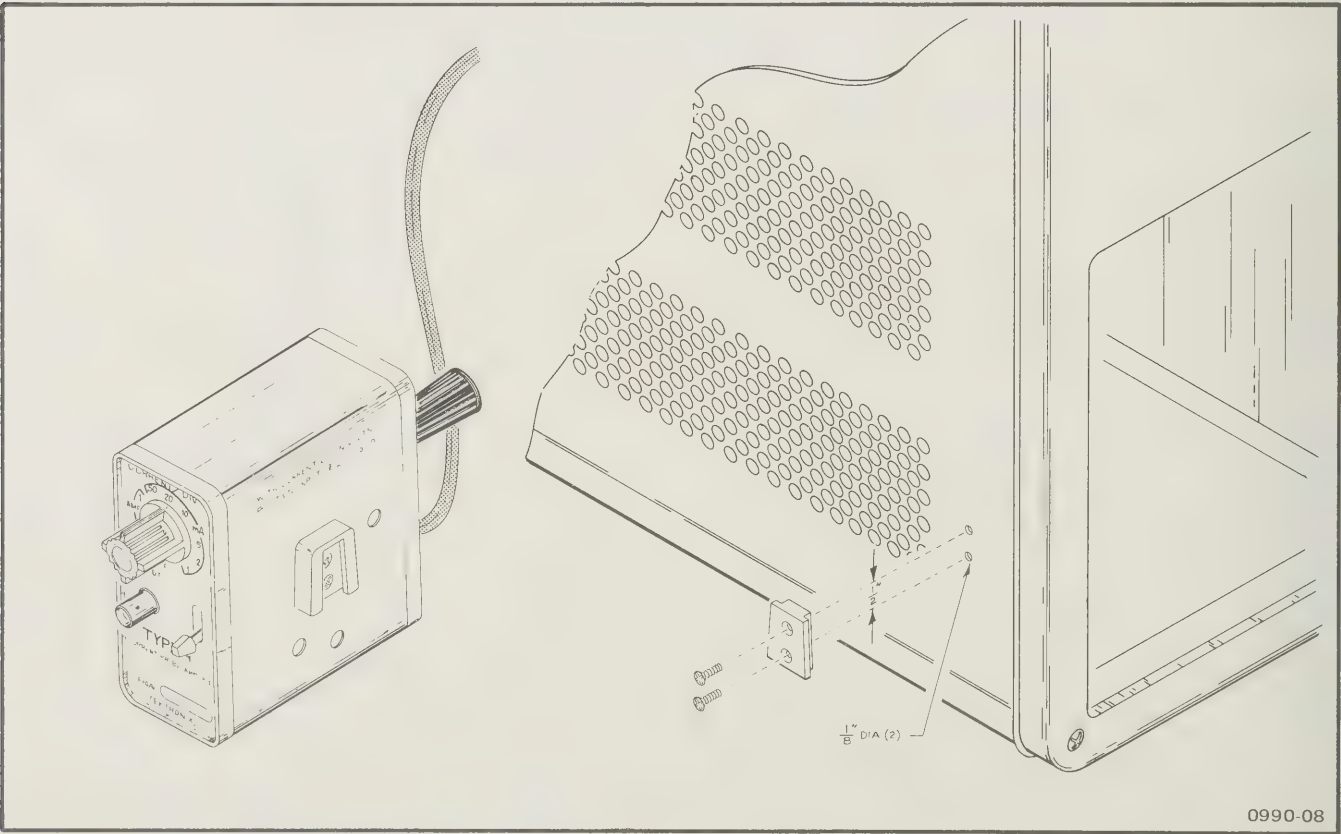

Fig. 4-3. Hanger installation.
1. Using the screws supplied with the hanger, fasten the large portion of the hanger to the right side of the Type 134 (see Fig. 4-3).